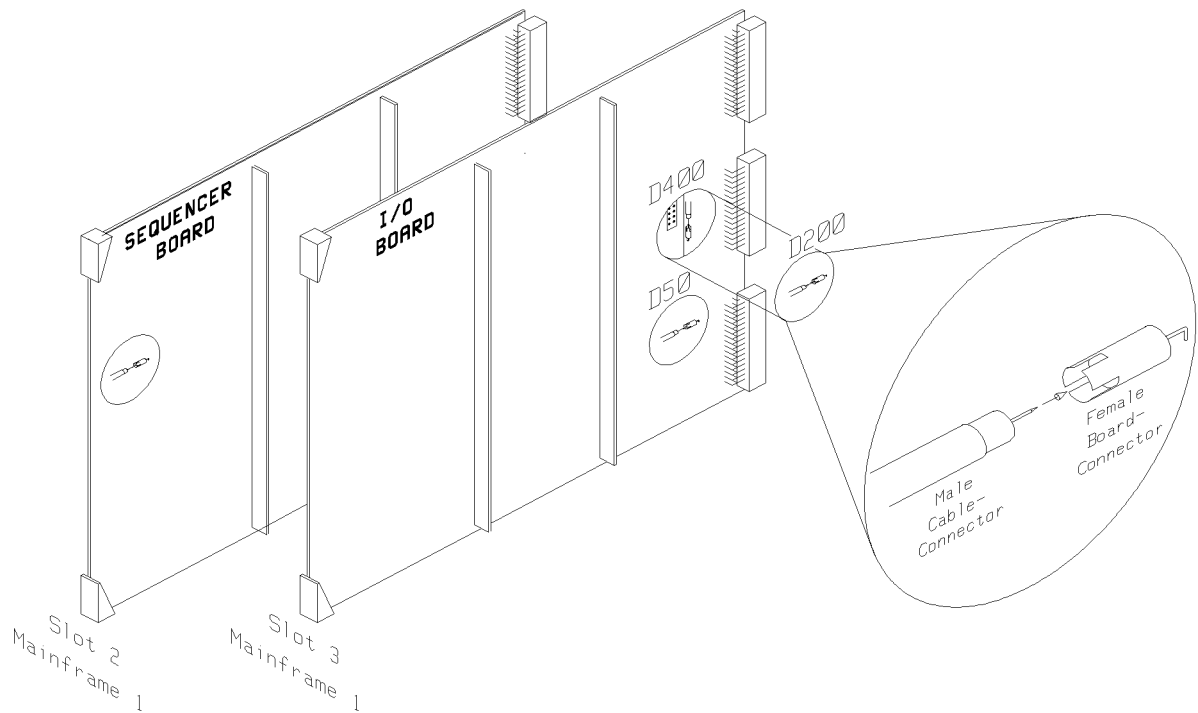

Figure 10-8. Word-Mask Cable
3. Push one end of the word-mask cable into the socket on the sequencer, as shown in Figure 10-8.
6. Push the remaining end of the word-mask cable into the socket on the I/O board, as shown in Figure 10-8.